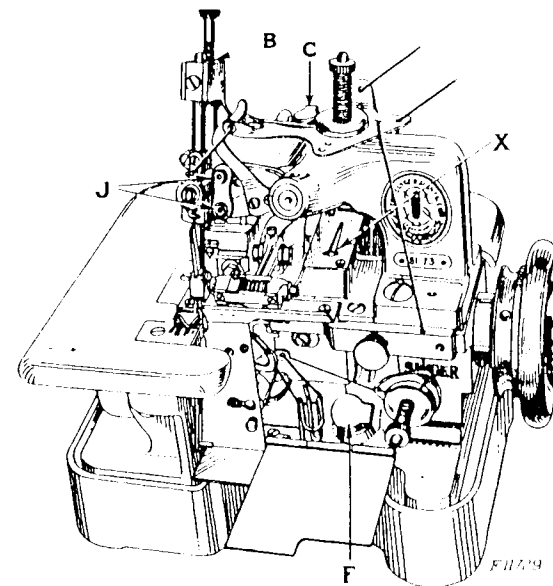
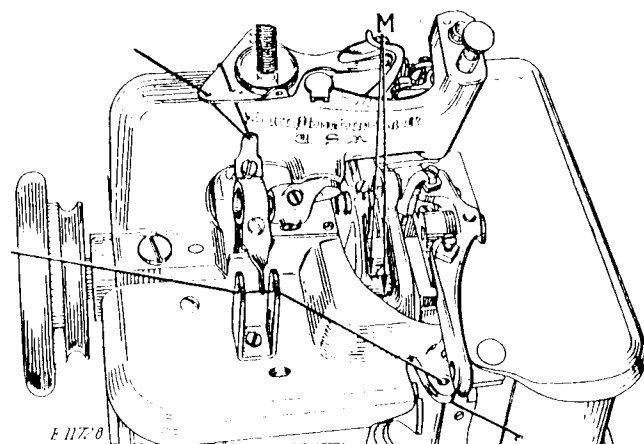

FIG. 4. FRONT VIEW, SHOWING OILING POINTS
FIG. 5. REAR VIEW, SHOWING OILING POINTS
for general use or "STAINLESS OIL FOR HIGH SPEED SEWING MACHINES" where a stainless oil is desired, to the oil hole (X, Fig. 4) and oil cup (F, Fig. 4) until the reservoirs are full. Fill the oil cup (C) at the top of the machine and thoroughly saturate the wick through the hole (B) in the casting near the top of the needle bar. Then oil the needle bar link connection (J) at the front of the machine. Also apply oil to the knife lever and presser lever bearings (M, Fig. 5) at the back of the machine.